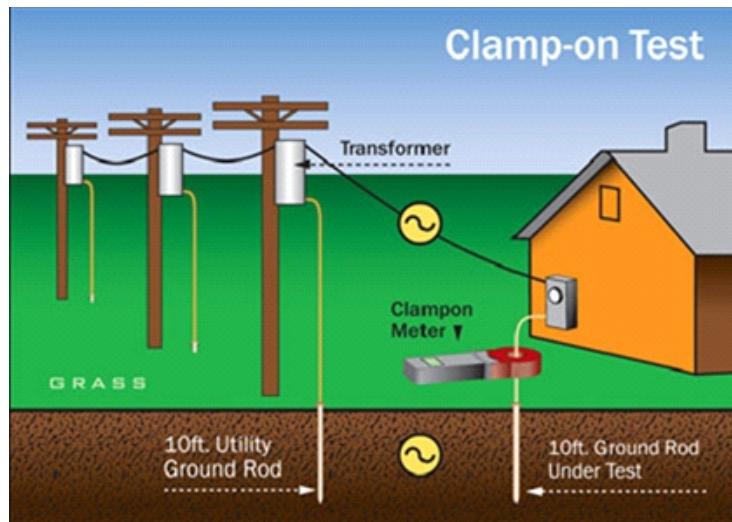

Fig. 2.10.3 Selective Method
2. The selective method is based on the fall of potential test but without the need to disconnect the ground electrode under test. Under this test a current clamp is used to isolate the test current injected into the electrodes. This application example shows the benefit of the selective test in a typical installation. Firstly the ground spikes are positioned according to the requirements of the system under test. Then individual elements of the system can be measured by placing the current clamp around the different connections to ground without the need of any power down or disconnection of existing circuits. Multiple electrodes can be tested quickly simply by moving the current clamp to individual electrodes which needs to be tested. The pictures below explain the same (Refer to Figure 2.10.3 and 2.10.4).